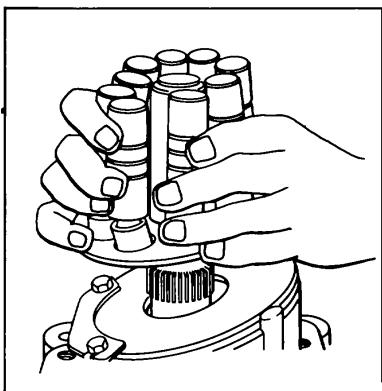

Figure 217.
13. Install piston assemblies (55) in return plate (24). Used pistons must be so positioned in the return plate to allow placement of the pistons in their respective cylinder block bores (See Page 118 Step 8).
14. If both piston return plate spacer assemblies (21, 22, 25, 26, and 27) were disassembled in Step 15, install two spacers (22), one bearing plate (25), one clip (26), two new tab lock washers (21), and two hex head bolts (27). Do not tighten bolts (27).
15. Spread a light film of oil on the surface of the wear plate (23) and slide piston (55)/return plate (24) assembly into place. See Fig 217.